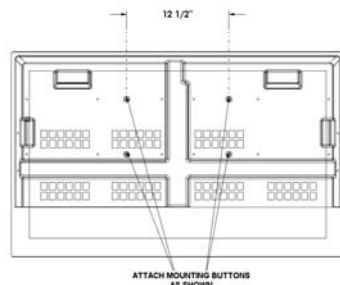
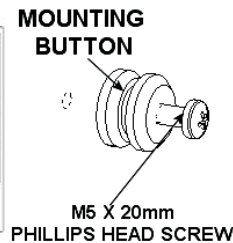

Figure 4
Figure 5
2. Attach mounting buttons to plasma using four M5 x 20 cap screws provided (see figure 4 and Figure 5).